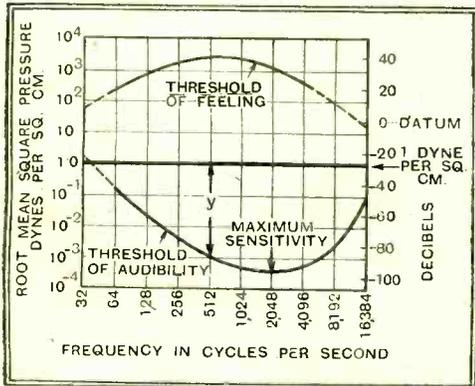

Fig. 1.—The threshold of audibility and of feeling for normal ears at various frequencies are shown in this diagram.
IN a recent article¹ in *The Wireless World* dealing with the "Loudness of Sound," we saw that the response of the human ear to sound depends upon (1) the intensity or acoustic air pressure, (2) the pitch or frequency. When the variation in air pressure corresponding to the sound is too small, no sound is heard, and it is said to be below the threshold of audibility. On the other hand, if the sound exceeds a certain loudness it is beyond the threshold of feeling. To refresh the reader's memory the threshold curves are reproduced in Fig. 1. The space enclosed by the curves is the auditory sensation area. If we choose any point within the area the sound intensity is, say, 1 dyne per square centimetre, and the frequency 1,000 cycles per second. A note of this intensity and frequency sounded by a loud speaker in a dead or completely damped room—of the type used for acoustic measurements—should be audible to any person with normal hearing.